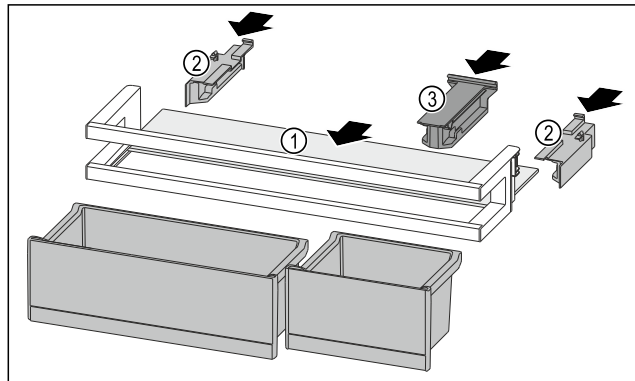

Fig. 144
- ▶ Push the shelf Fig. 144 (1) into the side recesses.
- ▶ Insert the side parts Fig. 144 (2).
- ▶ Insert the holding part Fig. 144 (3).